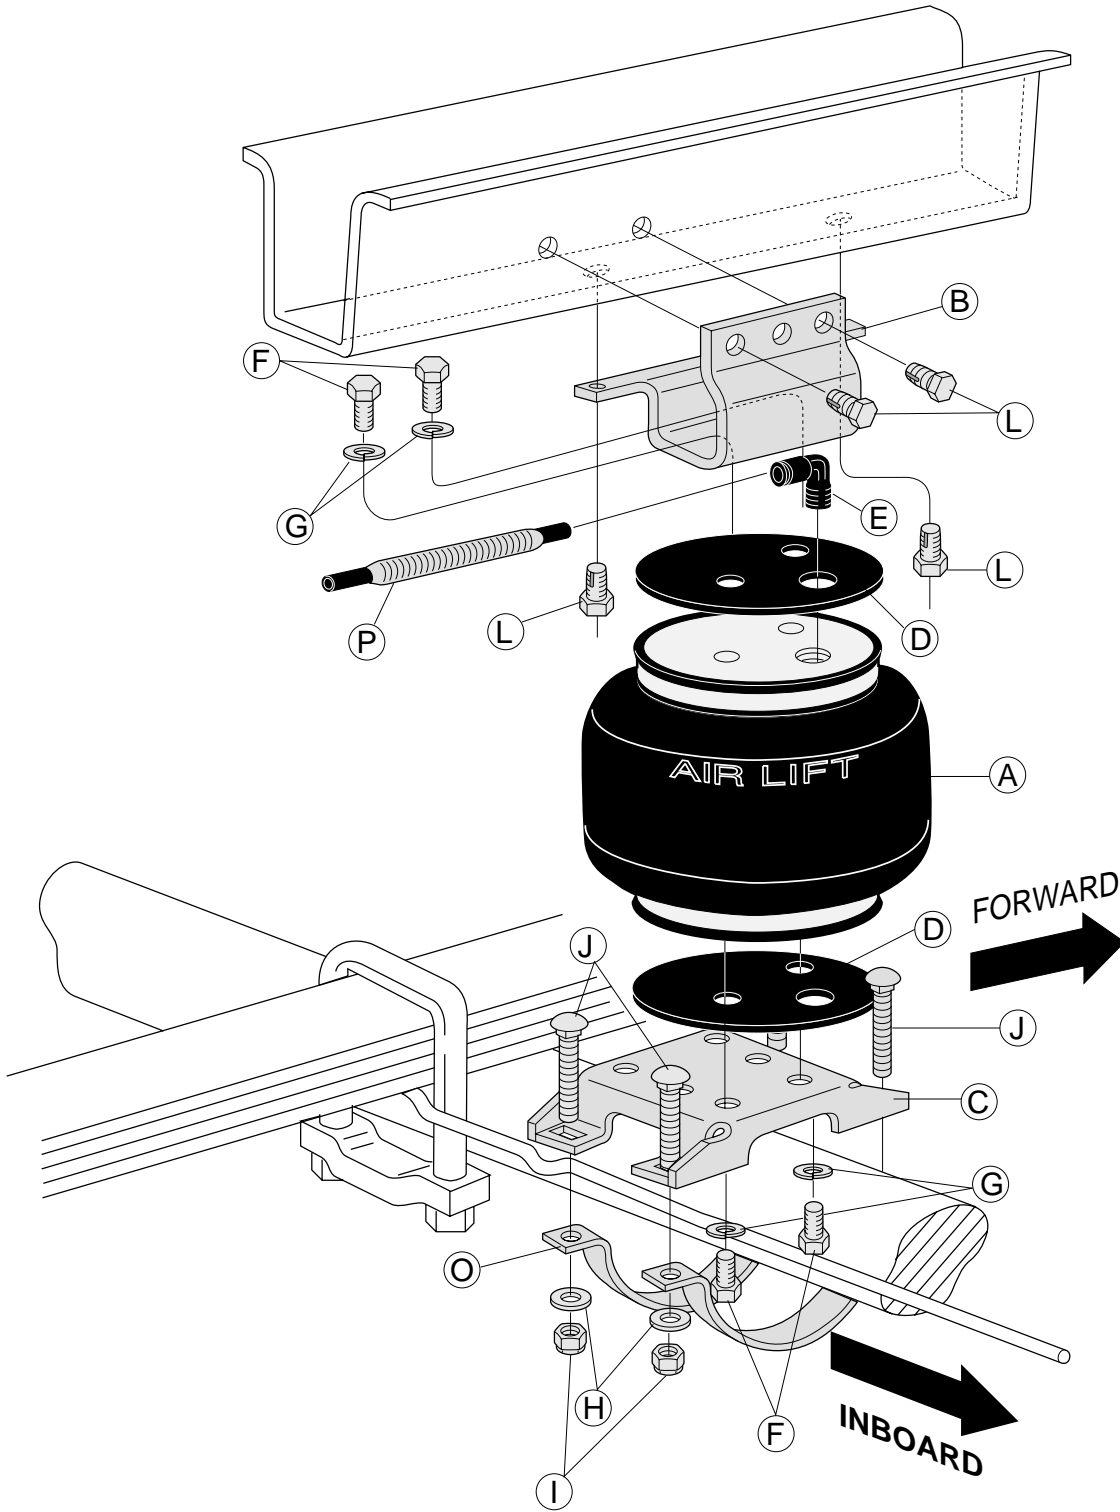

Figure 1B
This drawing represents the kit layout for **Late model GMC/Chevy** applications. If this kit is for Early model GMC/Chevys or Dodges, refer to Figure 1B on page 2.
- a. Some early GMC/Chevy models have the jounce bumper on the side of the frame rail. The entire jounce bumper and bracket assembly must be removed in order to mount the upper bracket. Unbolt, chisel, or grind off so that the bottom of the frame rail is smooth (Figure 1B).
- b. On all Dodge, remove the two bolts holding the jounce bumper to the frame rail and remove the jounce bumper and bracket (Figure 1B). Be sure that the bottom of the frame rail is smooth.
- e. Install two $\frac{3}{8}$ " self tapping frame bolts (L) and tighten to 15 ft-lbs (Figure 1B). The upper bracket is now attached.